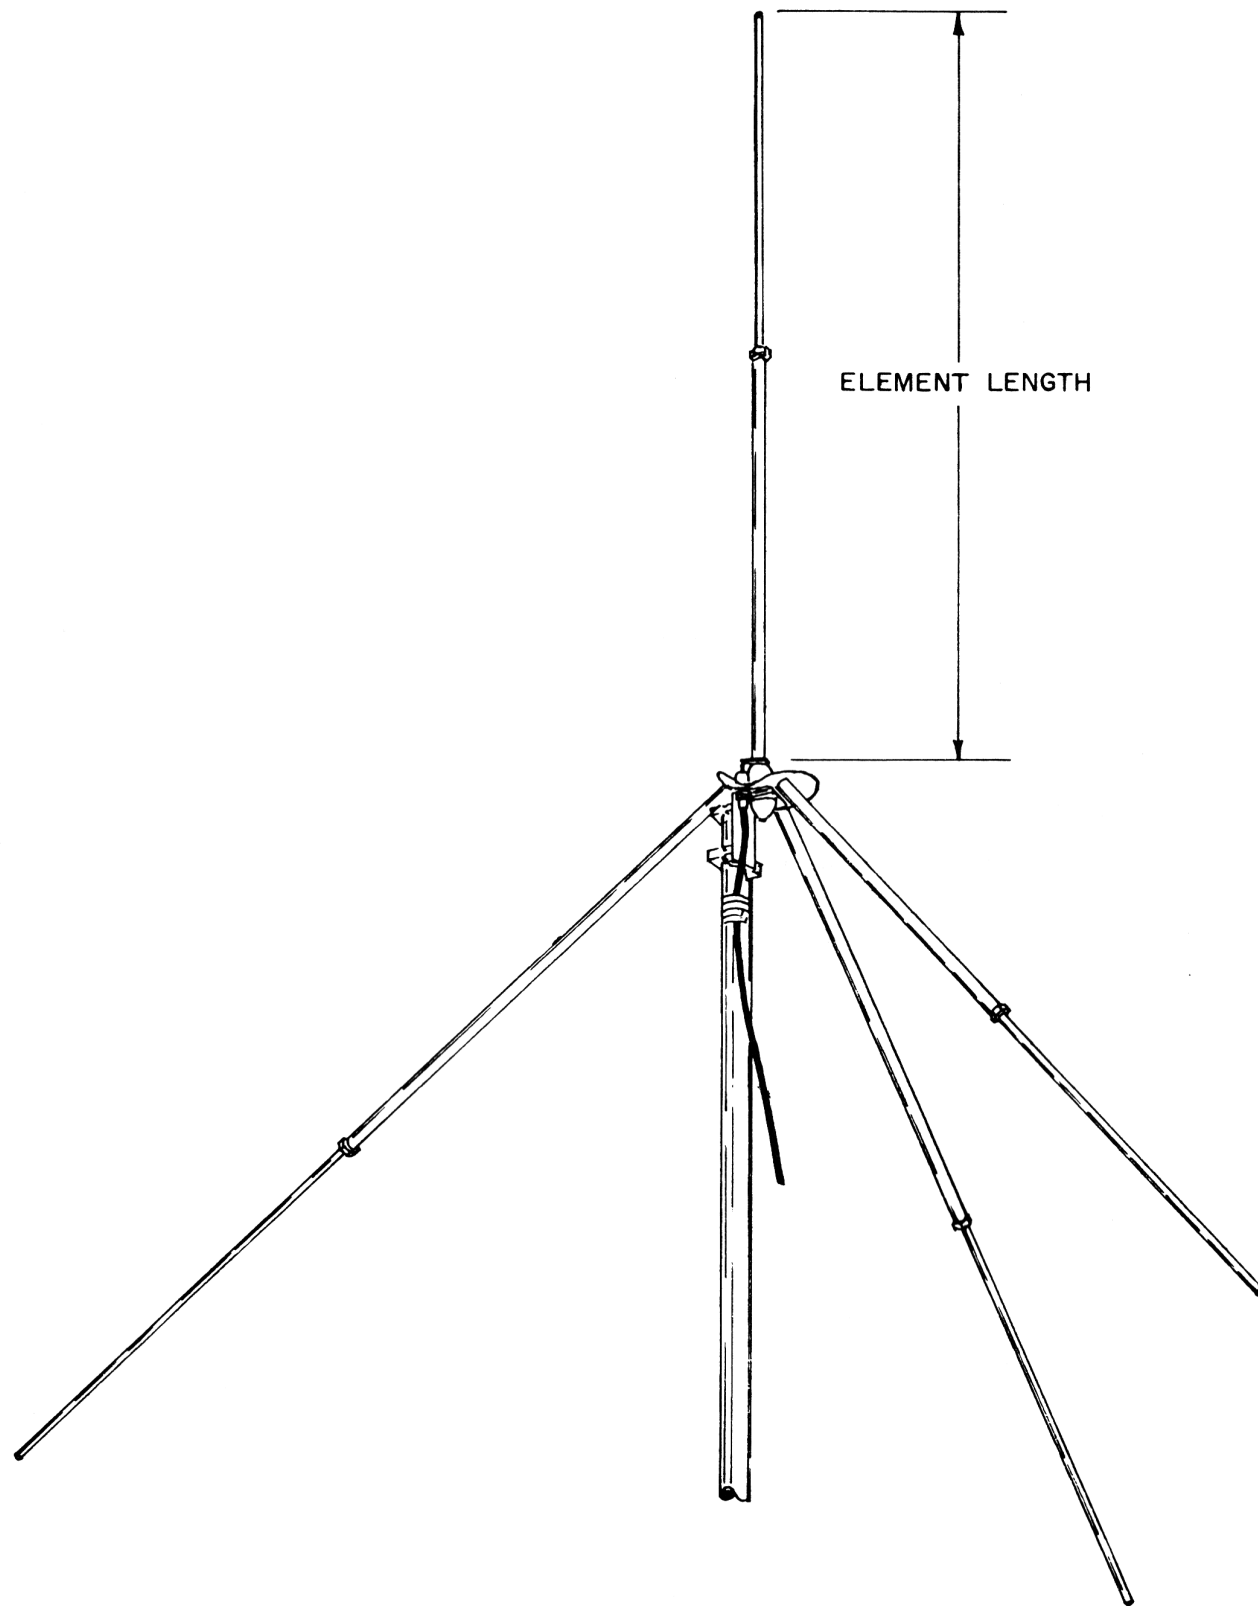

Figure 1. Model A-20A Antenna Assembly.
4. The Model A-20A Antenna, shown in Figure 1,